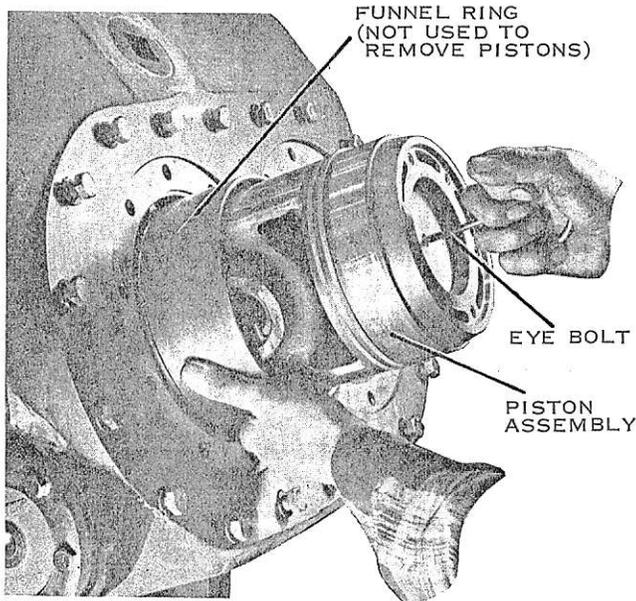

FIG. 44—Installing Piston and Connecting Rod Assembly in Cylinder
4. With the crankshaft turned so that the appropriate crankpin is down, insert the connecting rod and piston assembly through the funnel ring, (York Part No. 064-01456 supplied in the tool kit with the compressor) placed on the top of the cylinder sleeve with its larger diameter opening upward. The piston rings will be compressed by the funnel ring as the piston is pushed downward into the cylinder sleeve. (See Fig. 44.) Guide the connecting rod into position on the crankpin using care to prevent it from becoming fouled in the openings in the cylinder sleeve.
5. Place the bearing cap on the connecting rod, making sure that the identification marks match and are in their proper positions as described in paragraph (5) of REMOVING THE PISTON AND CONNECTING ROD ASSEMBLIES and tighten the self-locking nuts to the proper torque - 41.6 ft. lbs. (See Table 3.) Assemble in a similar manner the cylinder sleeve and the piston assembly in the remaining cylinder of the bank.